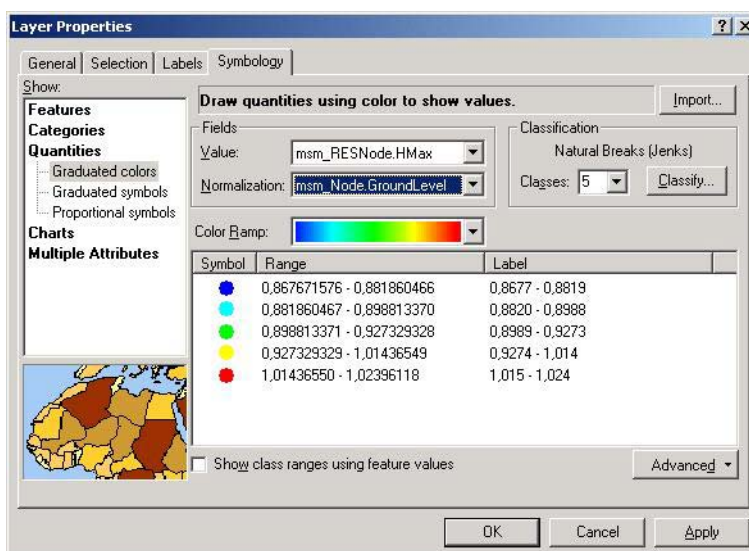
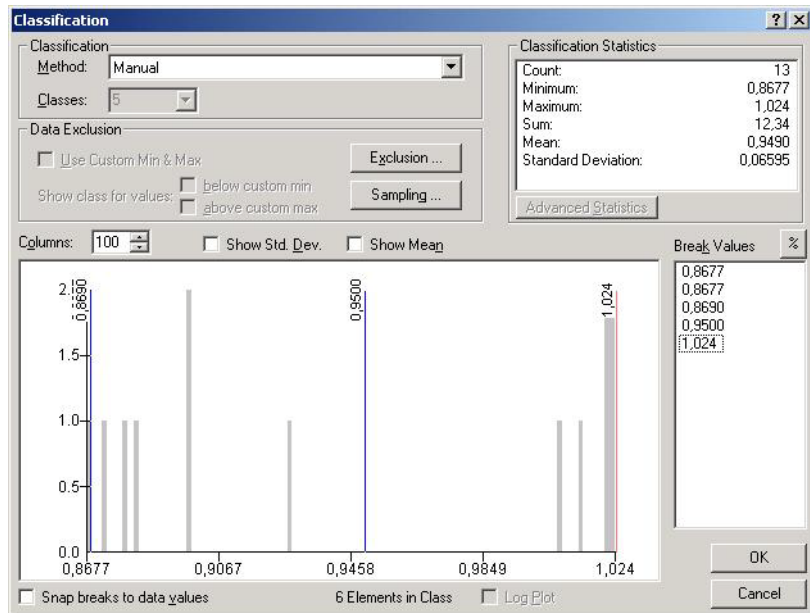

Figure 23.16 Normalizing the Hmax with the ground level
Figure 23.17 Changing the classification
- Go to the tab-page that says 'Symbology' and choose the ground level in the field to normalize the Hmax with. This is shown in Figure 23.16.
- Press the 'Classify' button in Figure 23.16. In the dialog that comes up, Figure 23.17, choose the break value for the top group to be 0.95. This can be done both by graphically moving the break value and by typing the value. Press 'OK' after doing so.